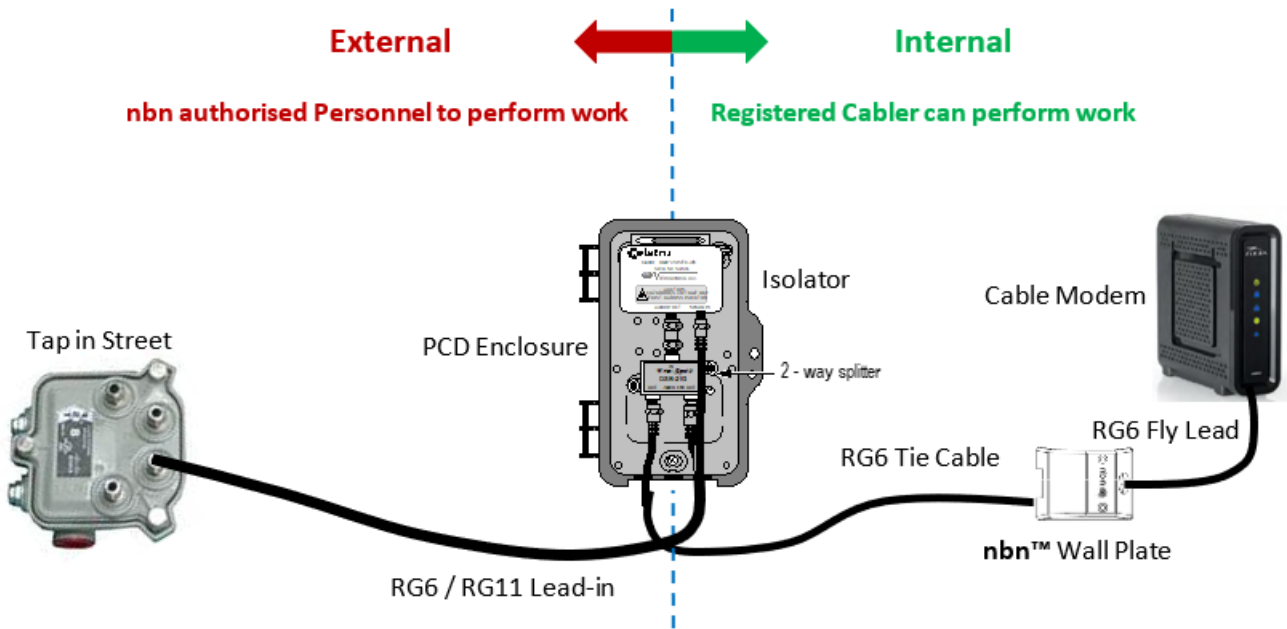
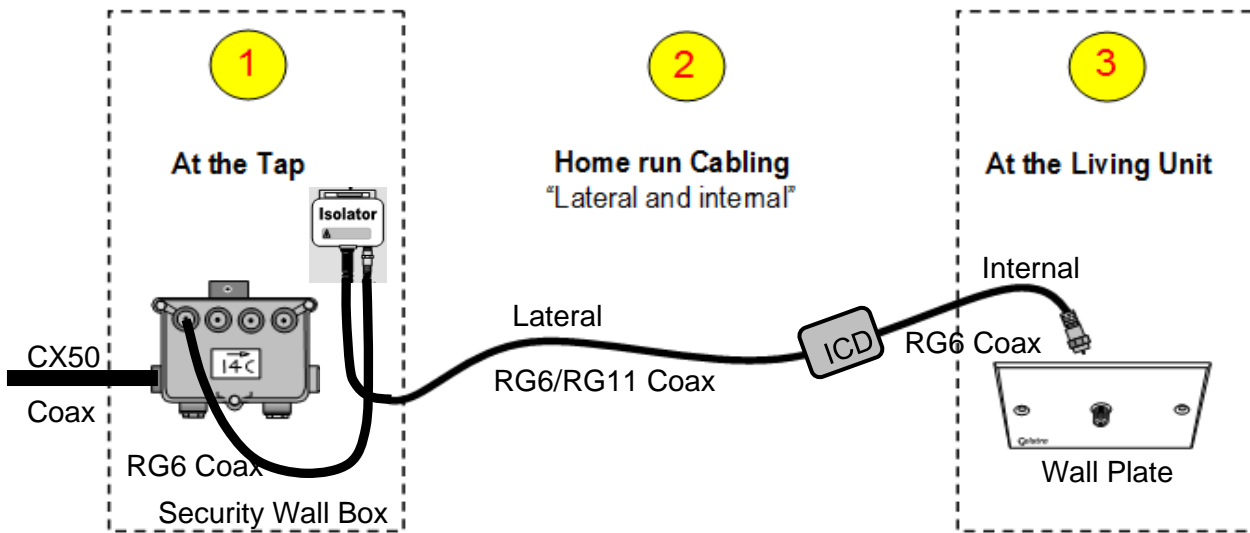

Figure 57. nbn Coaxial Authorised Work Boundary – SDU
Figure 58. MDU equipment and cabling (coax)
- do coaxial installation, modification and removal within premises for renovation, demolition or relocation of the building as per authorised work boundary nominated as illustrated in Figure 57.
Subject to the terms and conditions set out herein, nbn authorises a Registered Cabler to complete coaxial installation, modification and removal within premises for renovation, demolition or relocation of the building as per authorised work boundary nominated as illustrated in Figure 57. and Figure 58. perform MDU installation from the ICD to the wall plate inside the Premises (see Table 1 for the maximum home run cable lengths).
The high-level diagram below (See Figure 57) shows the authorised work boundary in an SDU served by the HFC network. A Registered Cabler fulfilling the criteria specified in this document is authorised to perform any such work during renovation, demolition or relocation of the building.